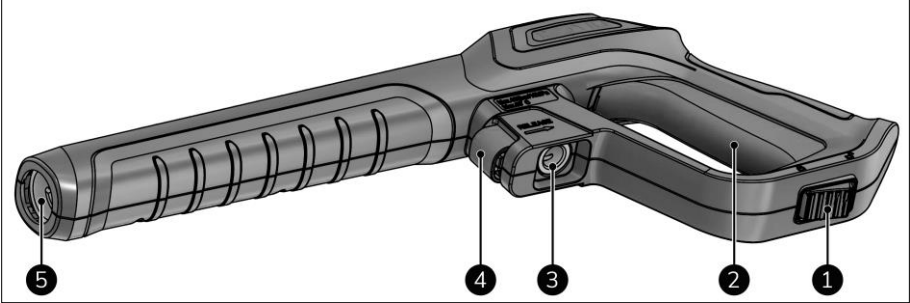

Figure 6
3. Unlock the safety lock under the trigger (Figure 6, pos. 1).
4. Squeeze the trigger (Figure 6, pos. 2) for several seconds to remove the air from the hose.
3. Squeeze the trigger (Figure 6, pos. 2) and start cleaning.
1. If applicable, release the trigger (Figure 6, pos. 2).
2. Lock the safety lock under the trigger (Figure 6, pos. 1).